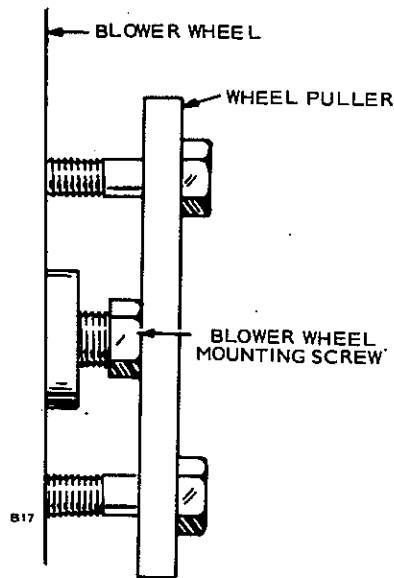

FIGURE 14-1. FLYWHEEL REMOVAL
2. Loosen flywheel mounting screw (Figure 14-1) a few turns.